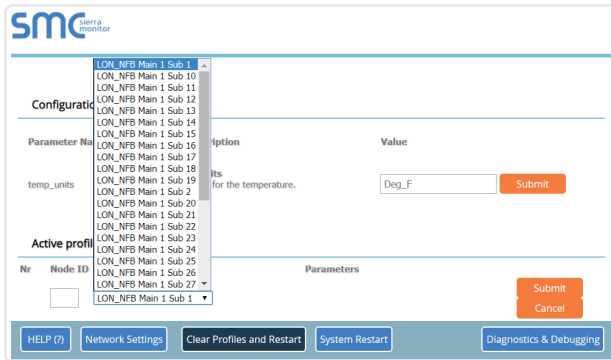

Figure 20: Profile Selection Menu
3. To add an active profile to support a device, click the Add button under the Active Profiles heading. Select a profile from the drop-down menu field that appears underneath the Current profile column. (Figure 20)